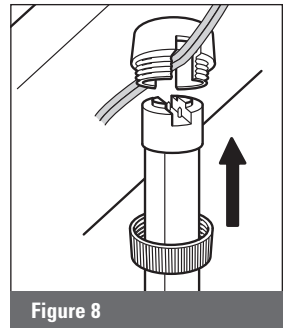

Figure 8
**b.** Insert joiner/pierce connector (T3) end of baluster into top connector and push firmly to pierce the wire. Secure to top connector by sliding threaded collar up to mate with threaded end of top connector. (Figure 8)